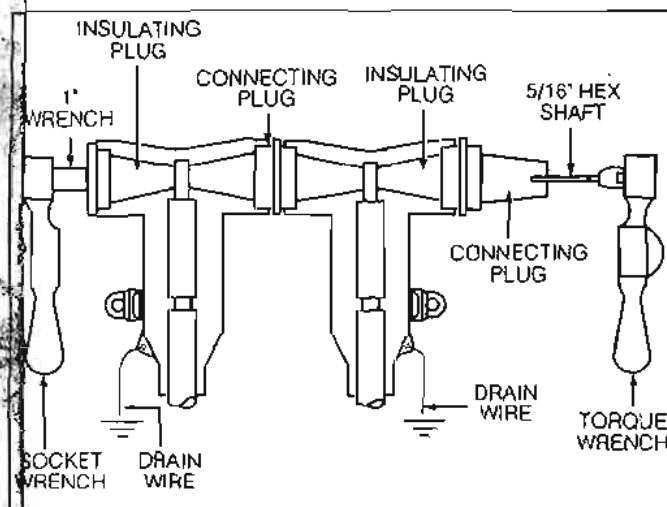

Figure 17.
- Install the stud end of the connector plug into the open interface of the second T-body. Hand thread the connector plug to the previously installed connector plug. Secure the first insulating plug with a 1" wrench. Insert a 5/16" hex shaft with socket drive tool (HD625, or customer supplied alternate), into the 5/16" hex hole at the base of the connector plug threads. Connect a torque wrench to hex shaft tool, while keeping first insulating plug secure, torque the second connector plug to 55 ft-lbs. (Refer to Figure 17.)